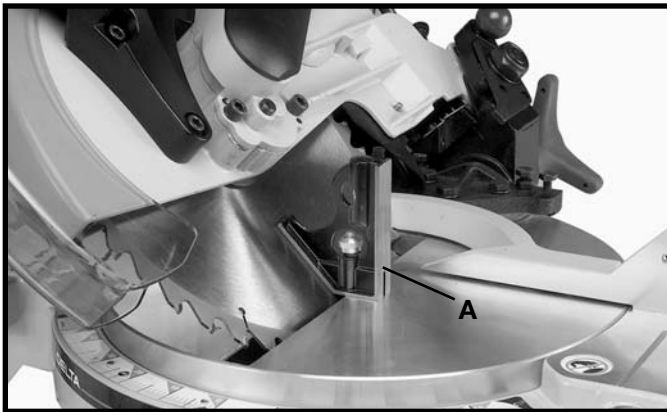

Fig. 31
6. Use a square (A) Fig. 31, to see if the blade is at 45 degrees to the table.